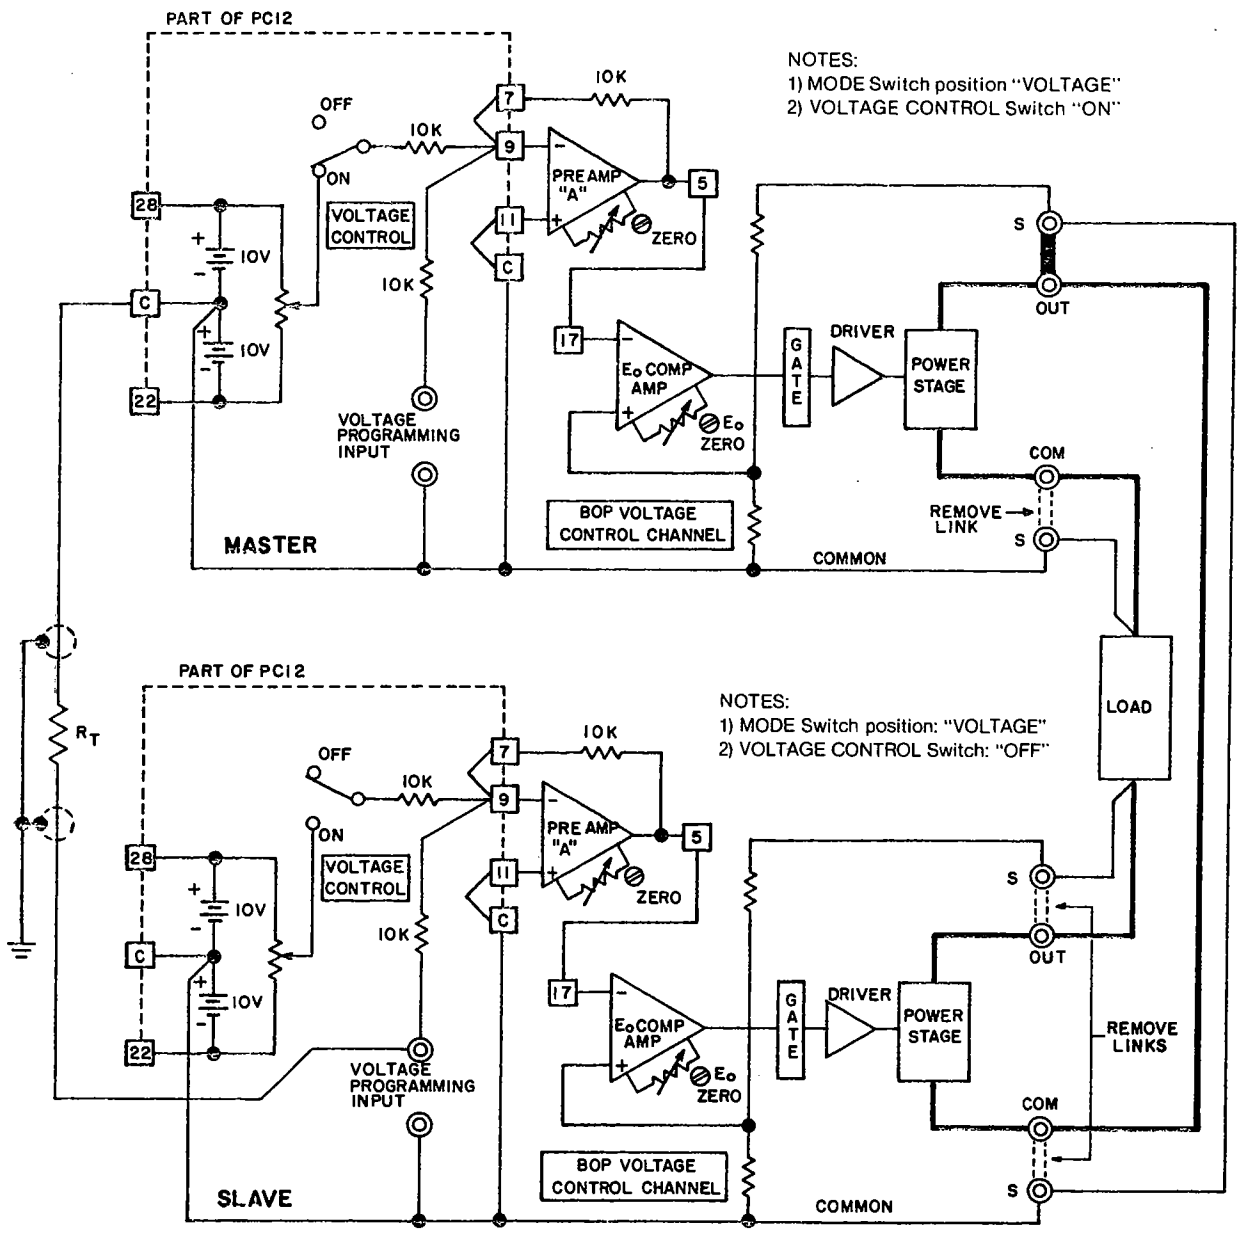

FIG. 3-26 MASTER/SLAVE SERIES CONNECTION OF TWO BOP POWER SUPPLIES, WITH ERROR SENSING AT THE COMMON LOAD.
- 1) Connect the BOP supplies as shown in FIG. 3-26. Set the MODE switches and the VOLTAGE CONTROL switches as directed in the set-up diagram, FIG. 3-26. Load-wire size should be as large as practicable and load-wire pairs should be twisted to keep the d-c resistance, as well as the inductance as low as possible. Use shielded cable for connecting the coupling resistor ( $R_T$ ). Connect shield to common ground. Either the positive, or the negative output side of the system can be grounded.
- 4) Following the set-up procedures as described above, turn BOP's "on" and commence operation. The system as shown in the set-up diagram (FIG. 3-26) operates in the Voltage Mode, since the MASTER MODE switch is in "VOLTAGE" position. For operation in the Current Mode, transfer the MASTER MODE switch to "CURRENT".
- 3-43 To extend the concept of series connection to more than two BOP units, refer to FIG. 3-26. The BOP unit now designated the SLAVE becomes the new MASTER for the next BOP unit to be added and so on, up to the desired number of BOP's in series. Simply place the BOP outputs in series and connect a further coupling resistor ( $R_T$ ) from the *present* SLAVE, terminal [C] to the *new* SLAVE, front panel VOLTAGE PROGRAMMING INPUT. Place the MODE switch on the BOP added to the series combination to VOLTAGE and the VOLTAGE CONTROL switch OFF.